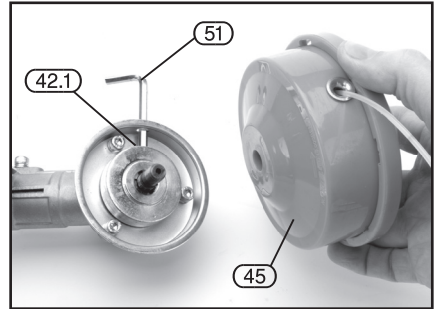

FIG. 12
9.5 FITTING THE COMPLETE SPOOL ASSEMBLY - FIG.12
- Using the hex. key supplied (51), lock the spindle to stop it from turning. It may be necessary to turn the spool assembly before the hex. key fully engages all the way.
- Screw the spool assembly (45) clockwise on to the spindle making sure the threads are not crossed.
- With the engine stopped, locate the spindle locking point (42.1) (Fig 12).
- Using the hex. key supplied (51), lock the spindle to stop it from turning. It may be necessary to turn the spool assembly before the hex key fully engages all the way (Fig 12).